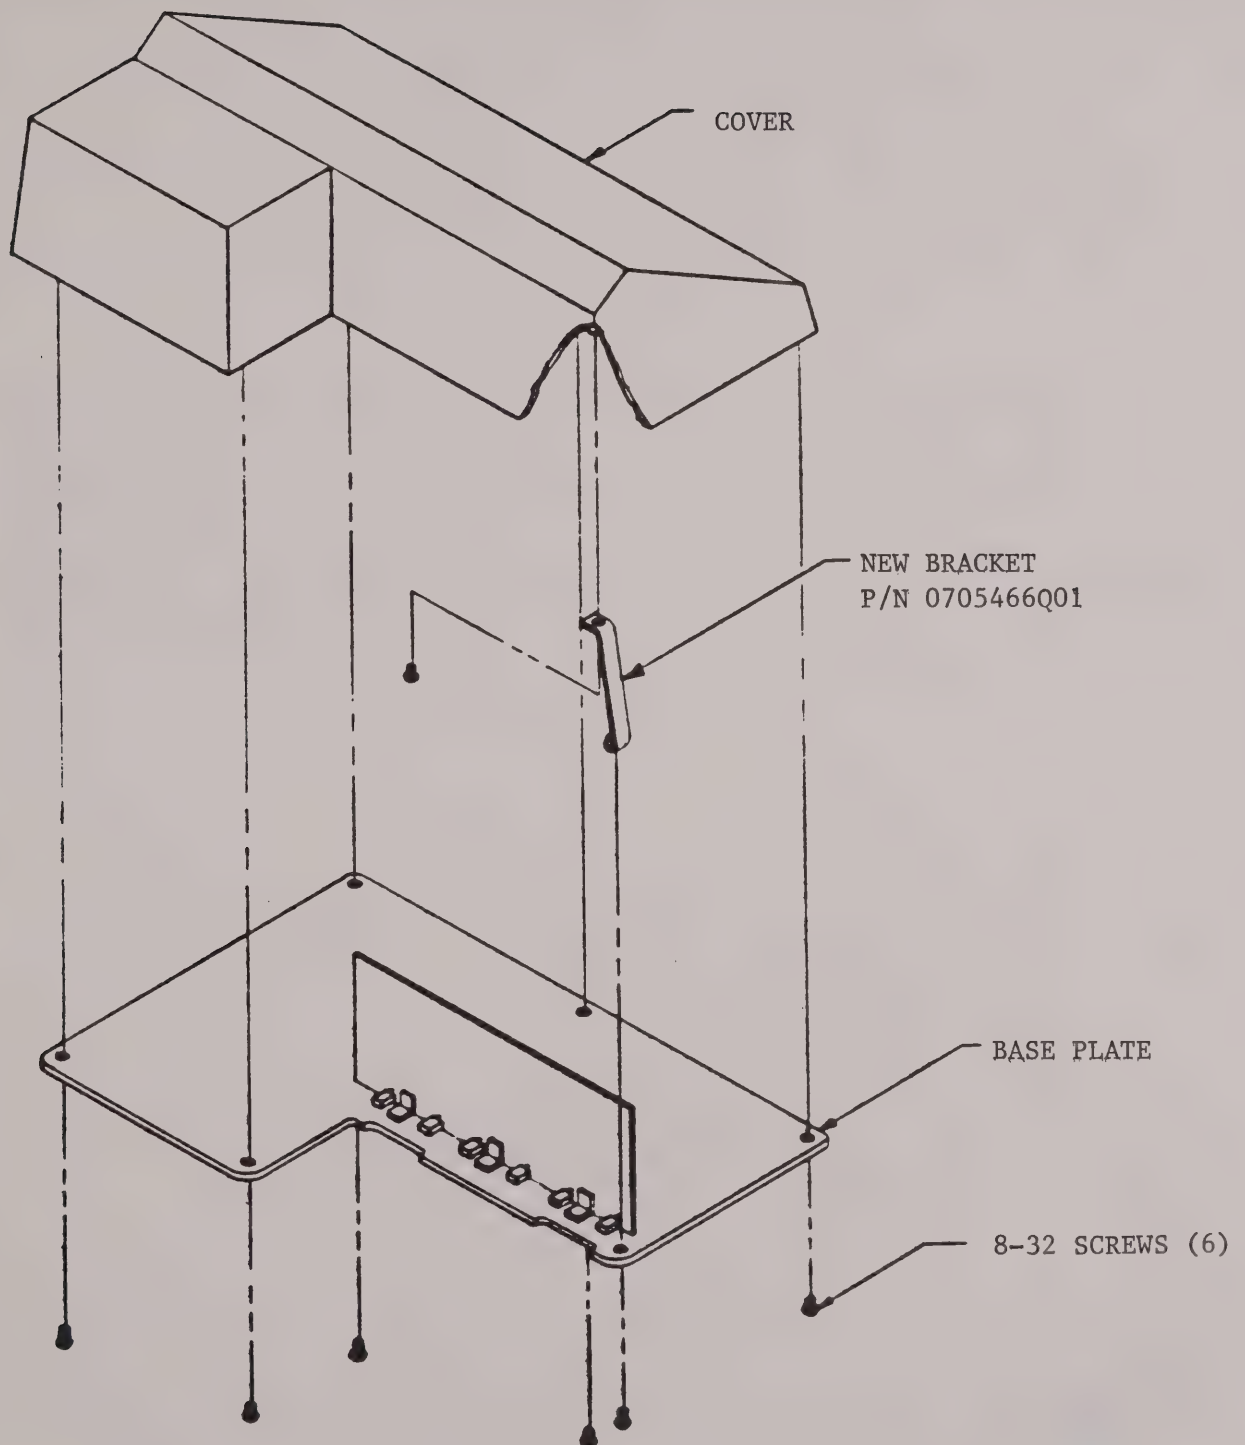

FIGURE 2
4. Remove housing mounting bracket (P/N 0705880L01) and replace with new bracket (P/N 0705466Q01) oriented as shown in Figure 2.
6. Replace cover and test to be sure all six (6) pockets are in good working order.
- Step 7: Remove the transceiver kit from the housing and check to make sure the battery contacts are squarely seated in their pockets. (See Figure 2).
- Step 8: If contact is not properly seated in pocket as shown in Figure 2, loosen battery contact screw and rotate stud into properly seated position and retighten screw to appropriate torque.